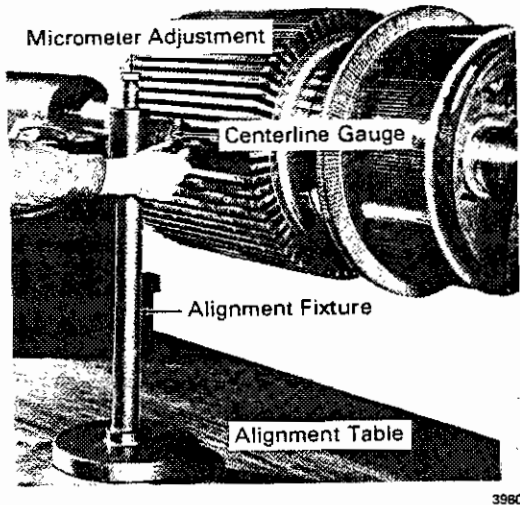

Fig. 22 - Setting of Gauge Alignment
8. Remove assembly from press and place the core and commutator in a horizontal position on an alignment table as shown in Fig. 22. Check the alignment of the commutator to the core with an alignment fixture and centreline gauge. Refer to Service Data for alignment fixture and centreline gauge part number. Place the centreline gauge in one of the core slots approximately in the centre of the core. Adjust alignment fixture to the centreline gauge by making adjustment with micrometer adjusting screw on the top of the fixture, Fig. 22.